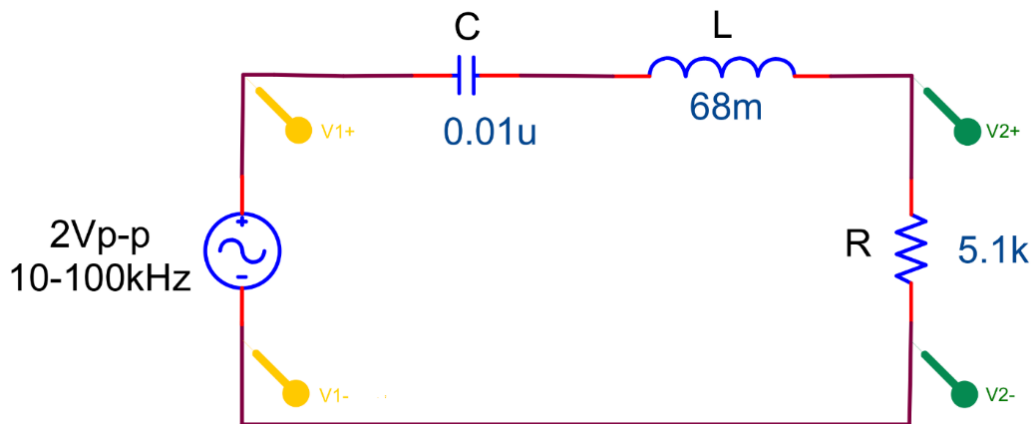

Figure 15.5
- a. Construct the circuit of Figure 15.5. Vary the frequency from 10Hz to 100kHz and use the oscilloscope to measure the magnitude of V2. Make sure that the input voltage remains constant throughout the measurements. Plot the magnitude of V2 vs. frequency on semi-log graph (frequency on log scale).
1. Use the AC analysis of SPICE to plot the magnitude of V2 versus frequency for Figure 15.5. How do your results compare to those obtained in part a?